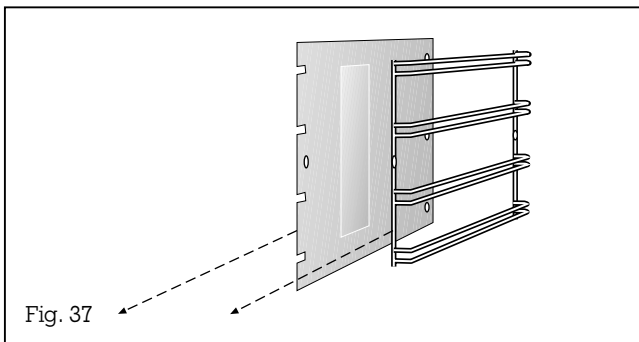

Fig. 37
- Remove the catalytic side plates with the support grids (Fig. 37). If the catalytic inside plates are highly soiled, you can clean them in very hot water with curd soap and a soft brush.